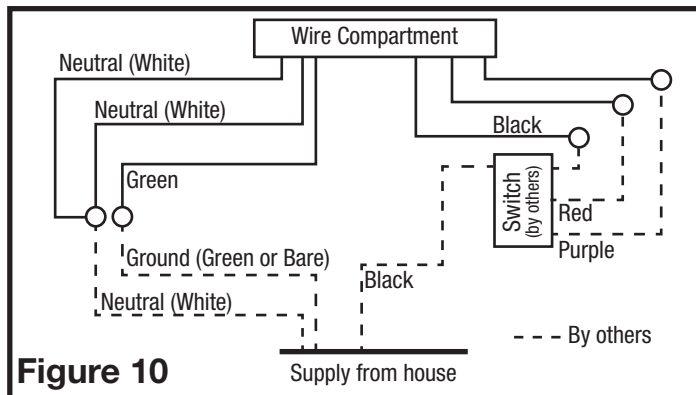

Figure 10
4. Secure the electrical wires to the housing with an approved electrical connector. Connect the White wires of the fan to the White (Neutral) wire from the power source. Connect the ground wire from the house to the green wire from the fan housing. Using a properly grounded three function switch (not included) connect the Black wire from the supply to the switch. Connect the Black wire (fan) from the fan housing to one of the terminals on the switch. Connect the Red wire (light) from the fan housing to a separate terminal on the switch. Connect the Purple wire (night light) from the fan housing to a separate terminal on the switch (**Figure 10**). Use approved methods for all connections.